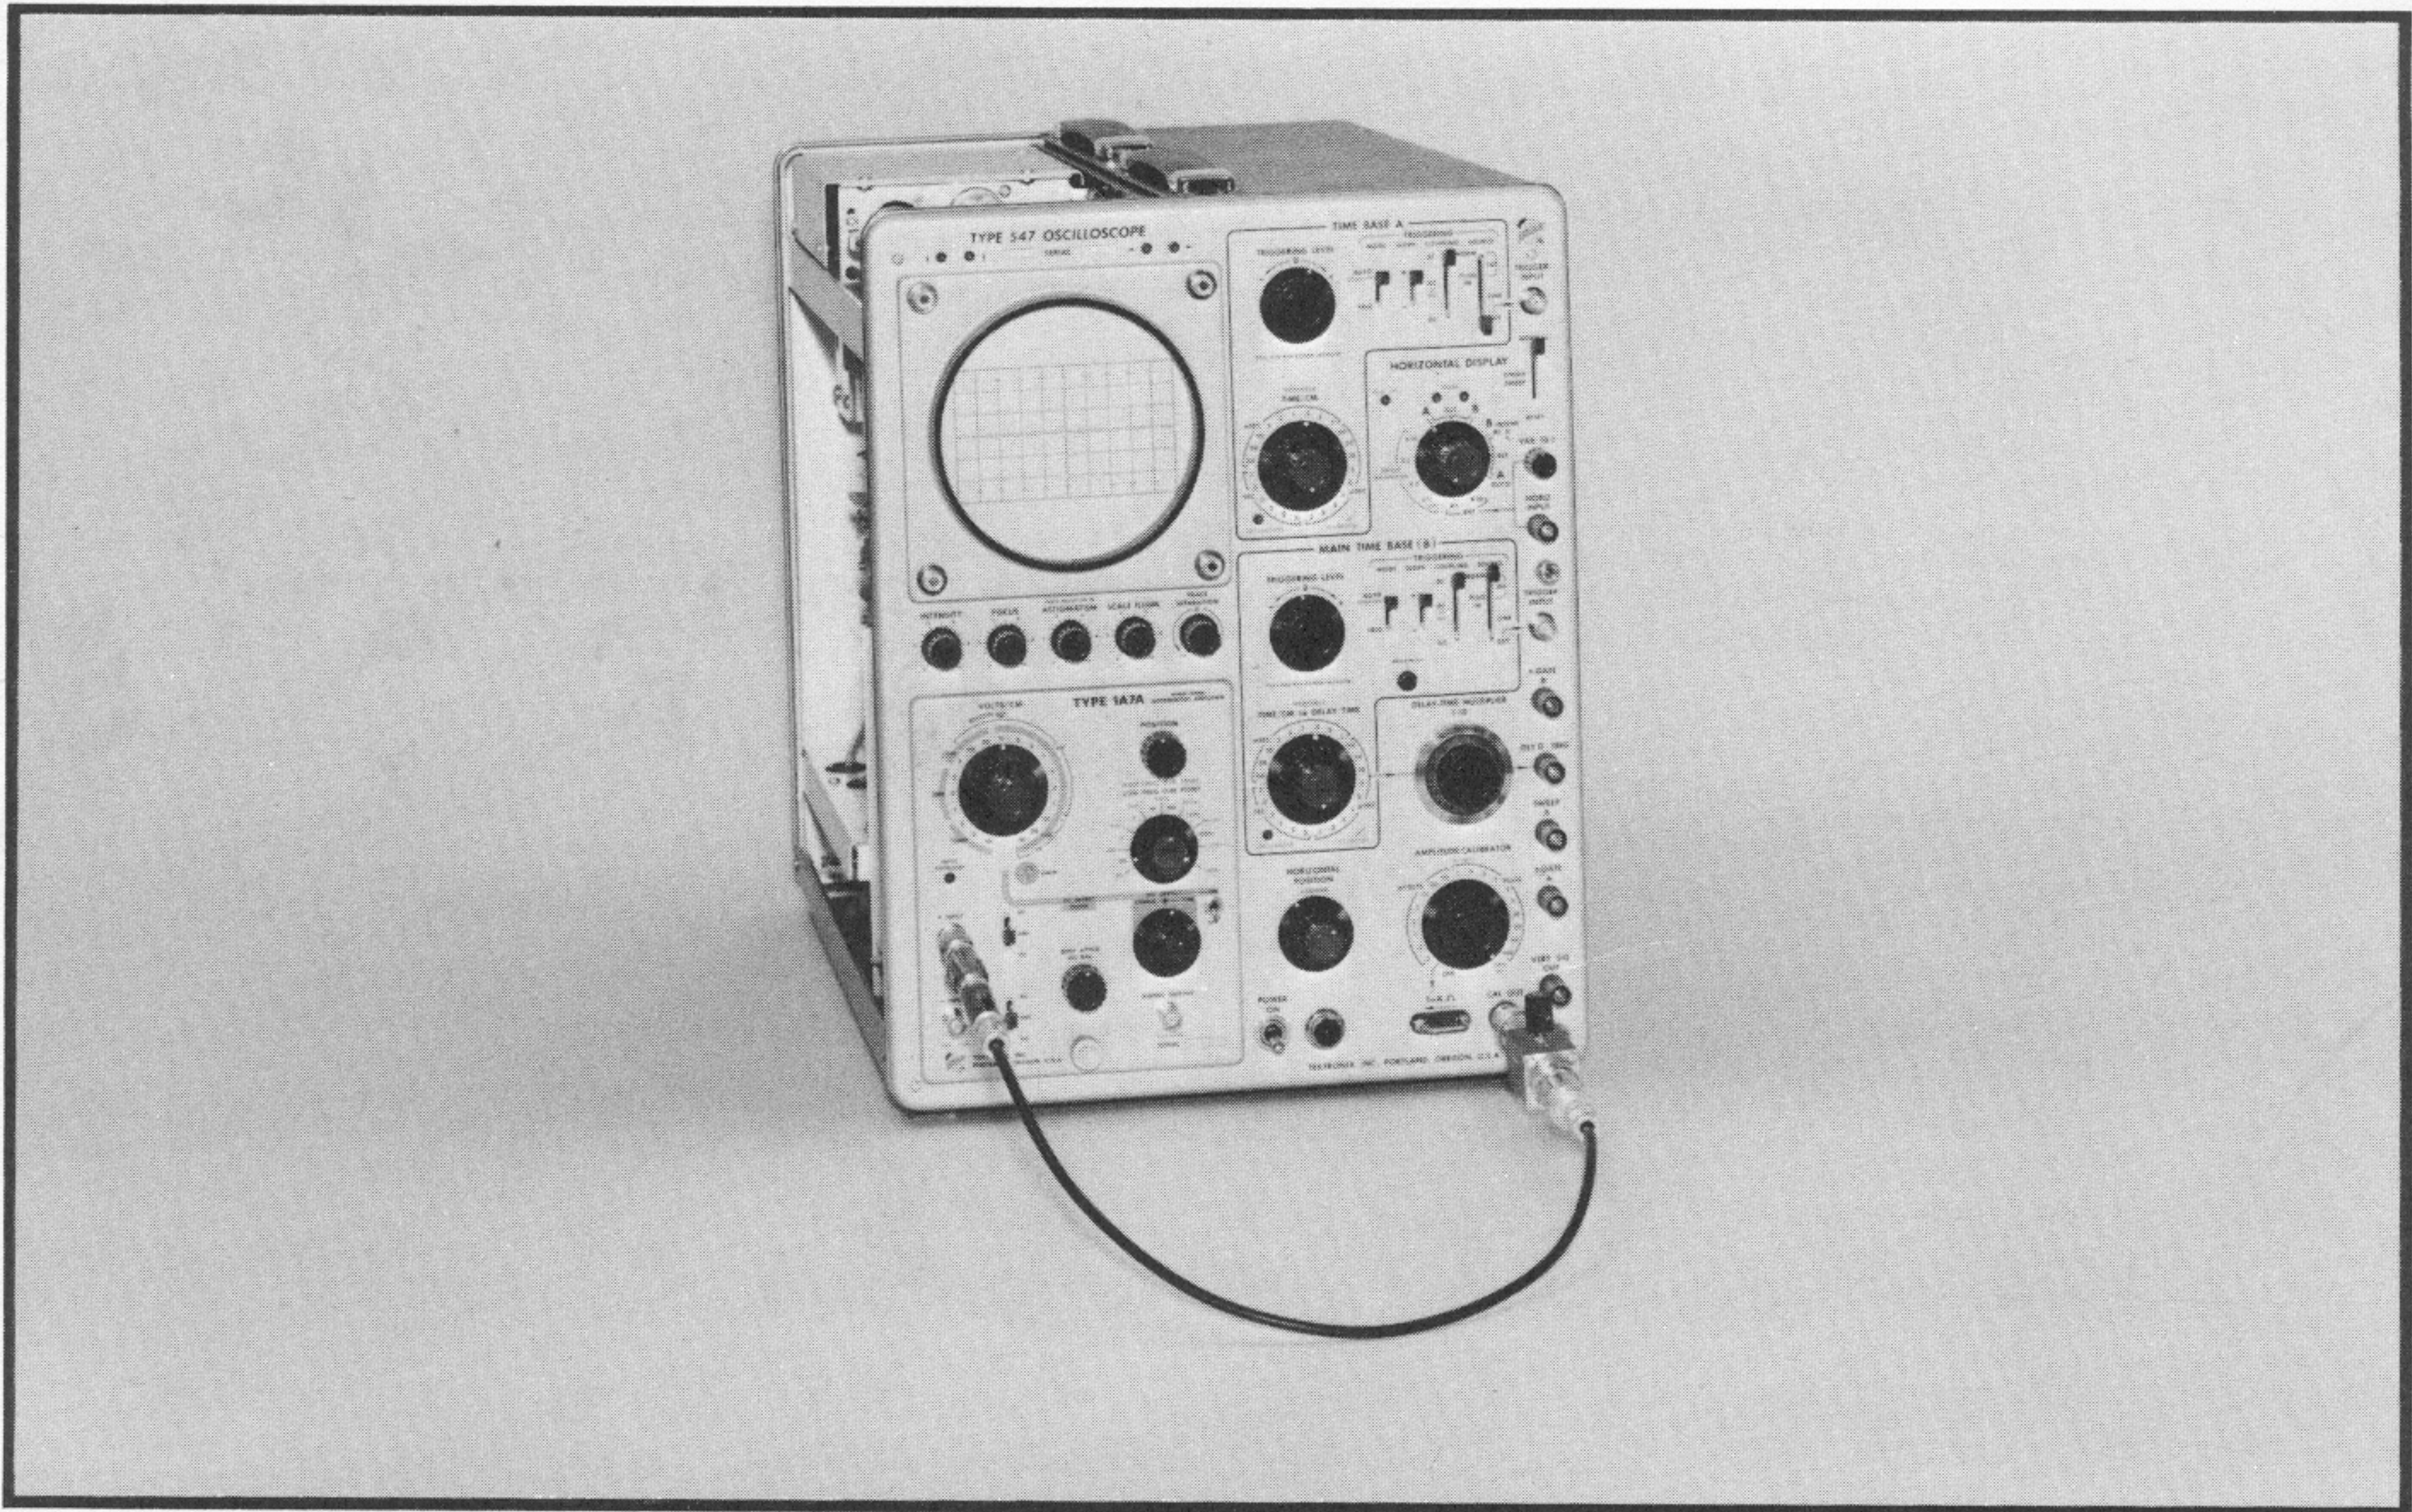

Fig. 5-30. Test equipment setup for step 28.
- a. Test equipment setup is shown in Fig. 5-30.